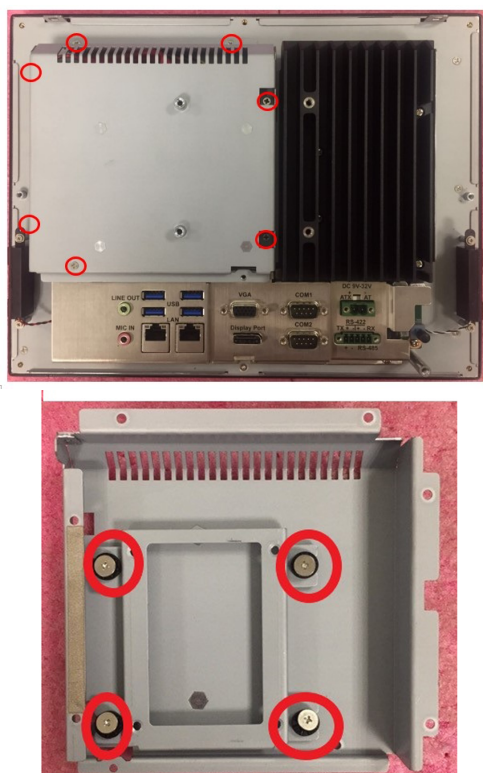

Figure 2.10
1. Follow the procedures in Section 2.3 to open the rear cover and remove the screws as indicated in the red circles in Figure 2.10.